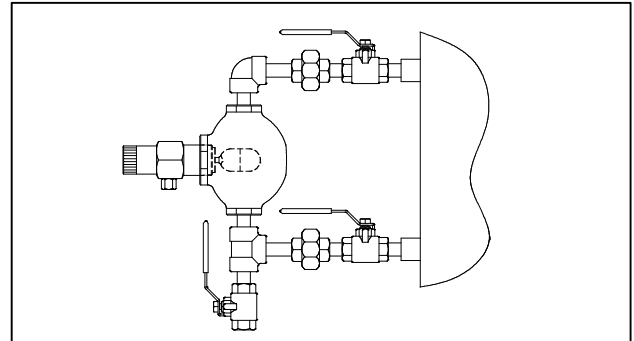

Figure 2
B. Into an External Chamber (Figure 2)